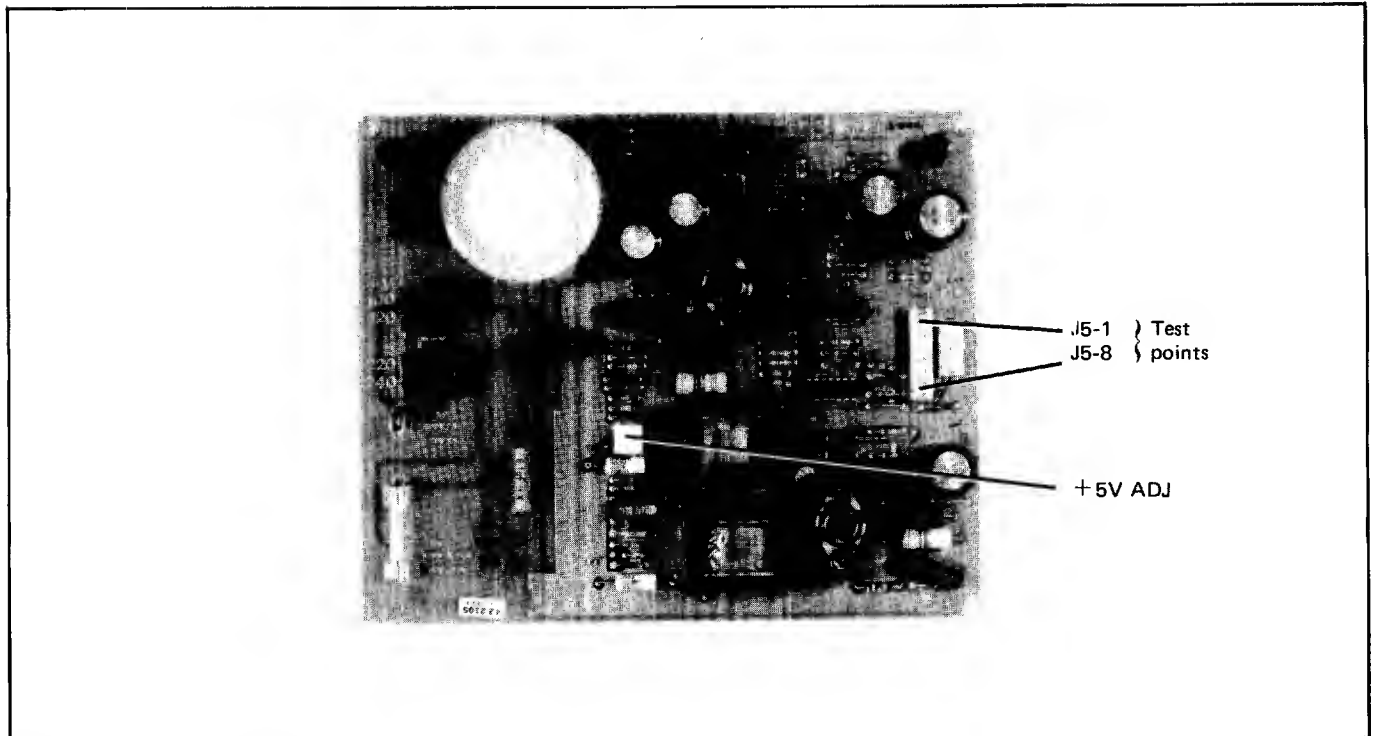

Figure 5-1 2621B Test Points And +5V Adjustment Locations
4. Using a 20 000 ohms/volt voltmeter, check the Power Supply PCA voltages (table 5-1 and figure 5-1 or 5-2) for accuracy. A fine-tipped voltage probe can be easily inserted through the holes in the cable connector (J5).
5. Adjust the +5V potentiometer (figure 5-1 or 5-2) until the +5V and +12V (or +16.1V for 2621B option 050) sources are within tolerance. If they cannot be adjusted to be within tolerance or if the -12V source is out of tolerance, refer to the Troubleshooting Section.